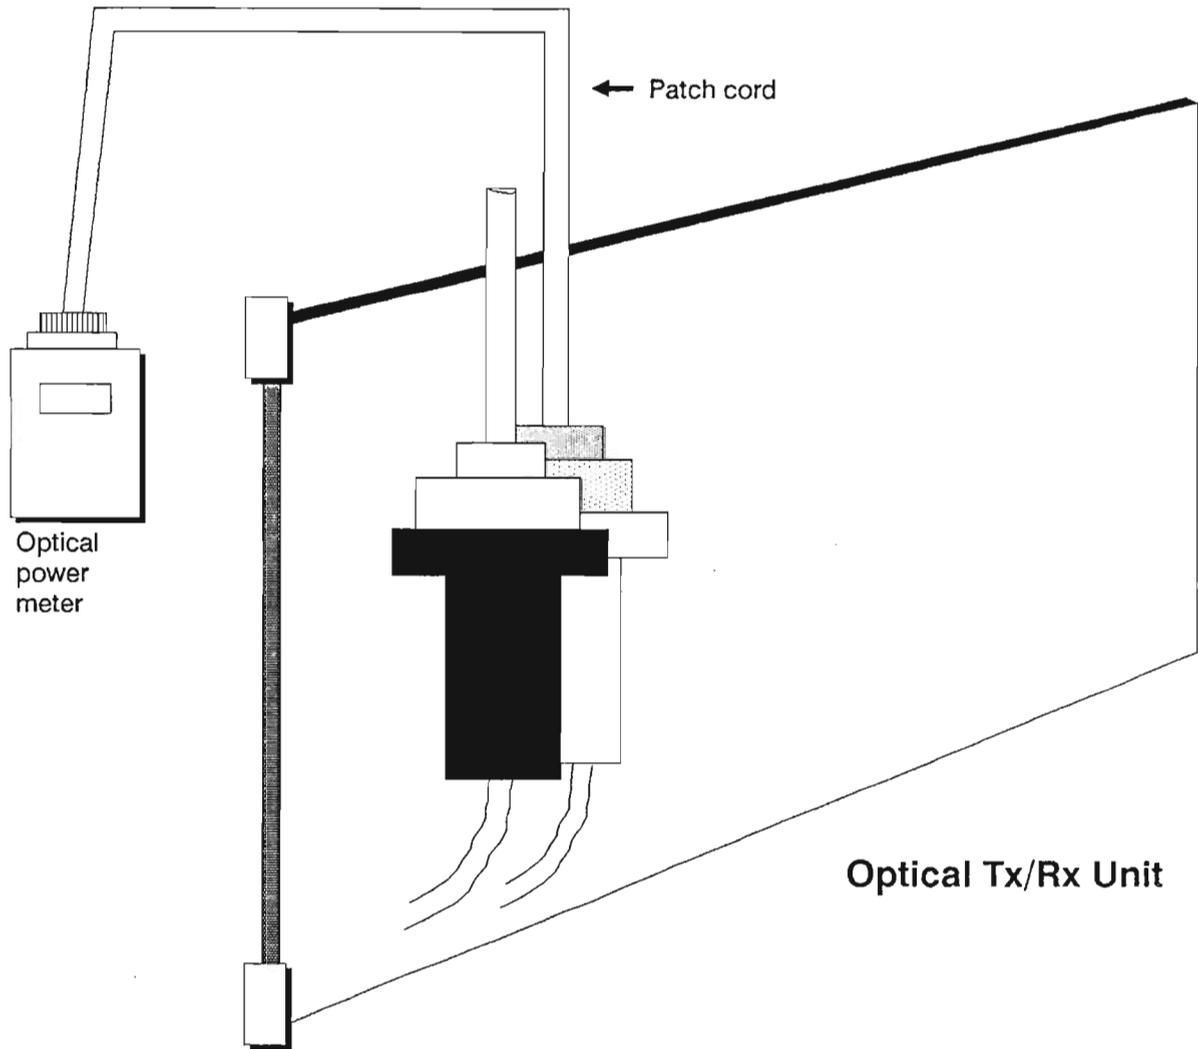

Figure 3
Ref. Fig. 3
3. Disconnect the patch cord from the Optical TX/Rx Unit and connect it to the optical power meter (configuration B in Figure 3).